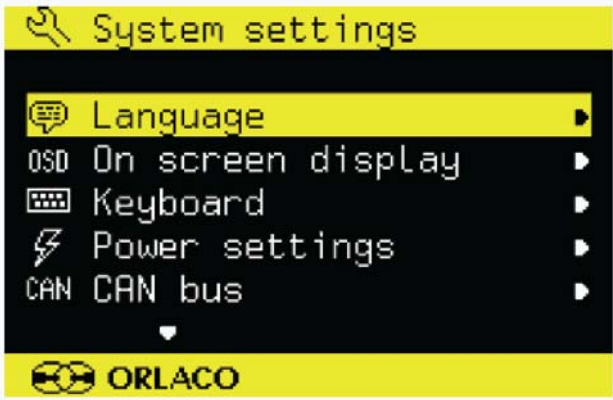

FIGURE 33-25.
- 2. Navigate the highlighted bar to the row named "System settings" by using the minus button and then press the enter button. The monitor screen will then be similar to Figure 33-25.